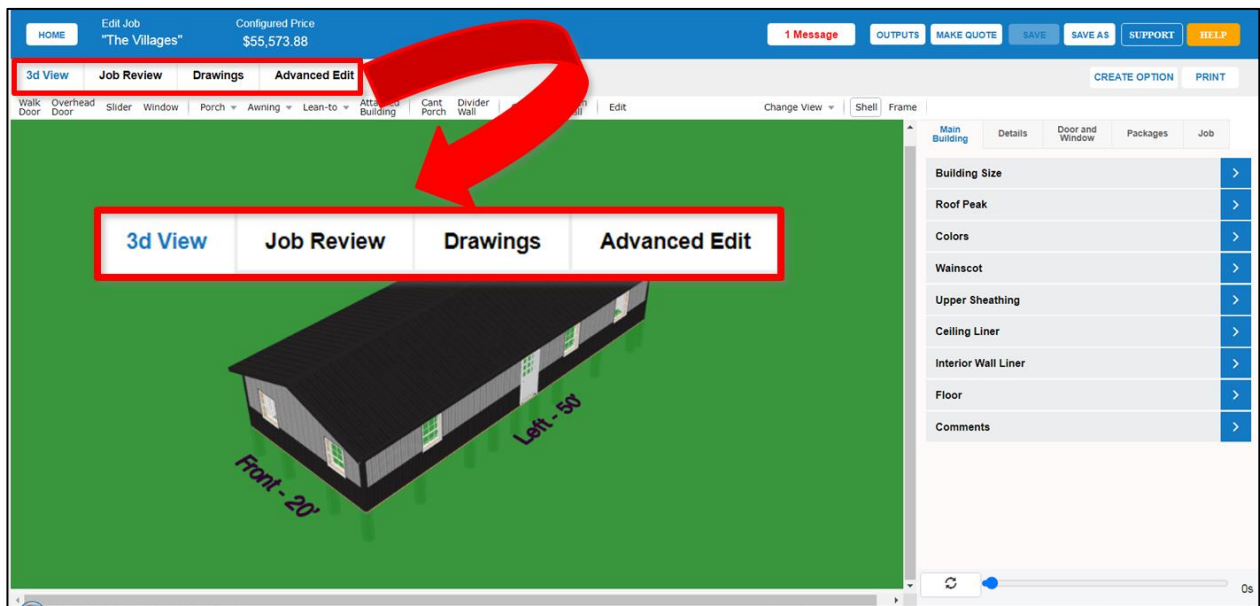

Figure 9: Mode Controls on the *Edit Job* window.
4. The selected job will open in the SmartBuild *Edit Job* page like the one shown in Figure 9 below. There is a lot to see and do on the *Edit Job* page, however, before we get started, the very first thing we need to talk about are the *Edit Job Modes*.